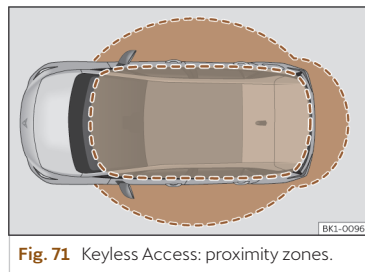

Fig. 71 Keyless Access: proximity zones.
- The vehicle is unlocked when the vehicle key is detected nearby >>> Fig. 71. All turn signals flash twice.